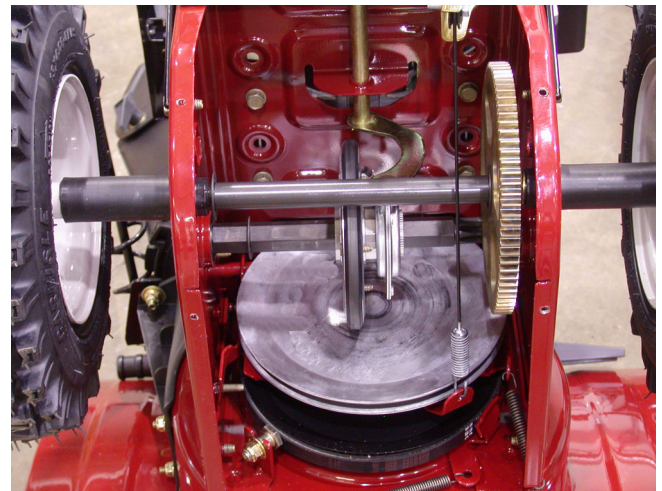

Figure 8.4
- 8.4. Remove the bottom access panel. See Figure 8.4.